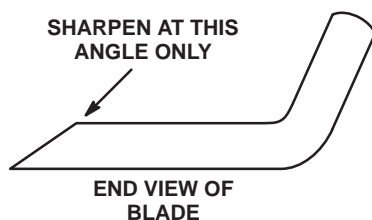

Figure 89
3. Examine the cutting edges of all of the blades. Sharpen the cutting edges if they are dull or nicked. Sharpen only the top of the cutting edge and maintain the original cutting angle to make sure of sharpness (Fig. 89). The blade will remain balanced if the same amount of metal is removed from both cutting edges.